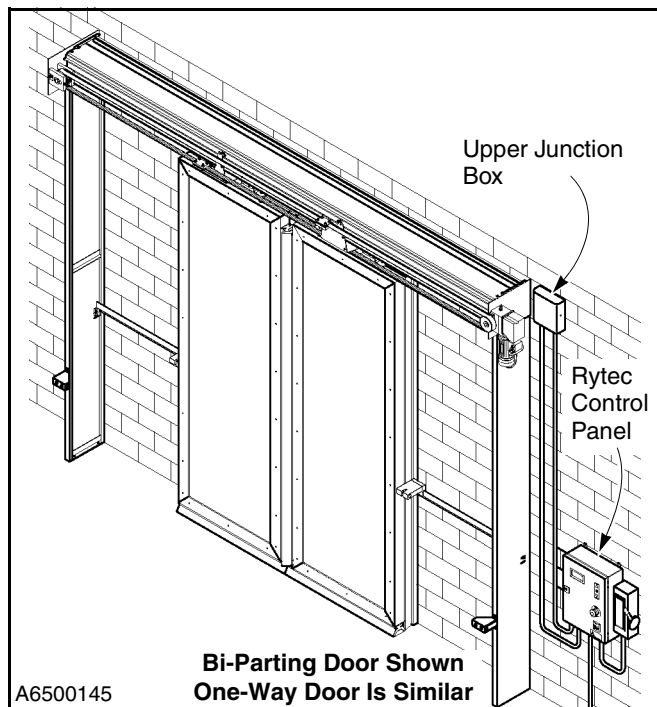

Figure 15
2. Remove the cover from the upper junction box. (See Figure 15.)